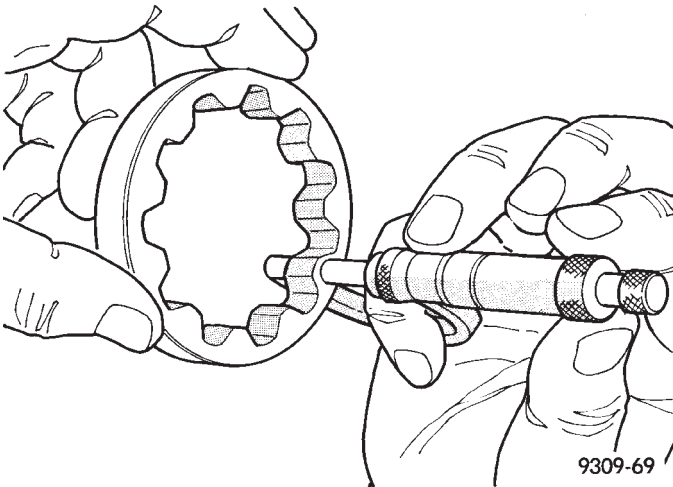

Fig. 115 Measuring Outer Rotor Thickness
(3) Measure thickness and diameter of outer rotor. If outer rotor thickness measures 14.299 mm (0.563 in.) or less (Fig. 115), or if the diameter is 79.78 mm (3.141 inches.) or less, replace outer rotor.